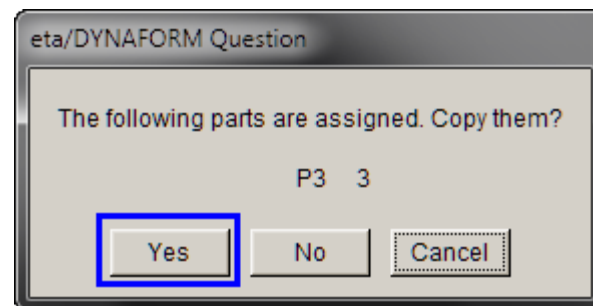

Figure 58
6. Click **Yes** to copy the selected part. (Figure 58).